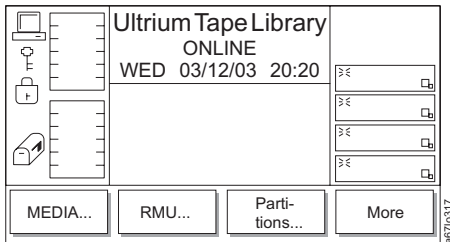

Figure 4-102. Library Submenu
- Press the button below the **Library** softkey. The Library Submenu displays (see Figure 4-102).
6. To accept the changes and establish the settings for remote communication between library and the network, press the button below the **OK** softkey. The Library Submenu redisplay (see Figure 4-102 on page 4-62). To return to the Main Menu, press the button below the **Back** softkey until the Main Menu displays.